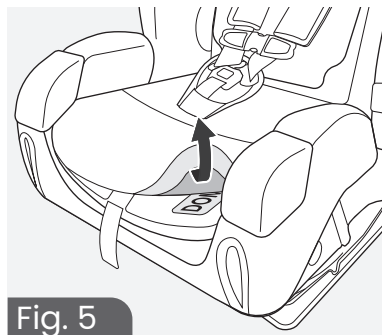

Fig. 5
1. **Untuck** the child's left side of the seat pan cover set and locate the date of manufacturing label.(Fig. 5).